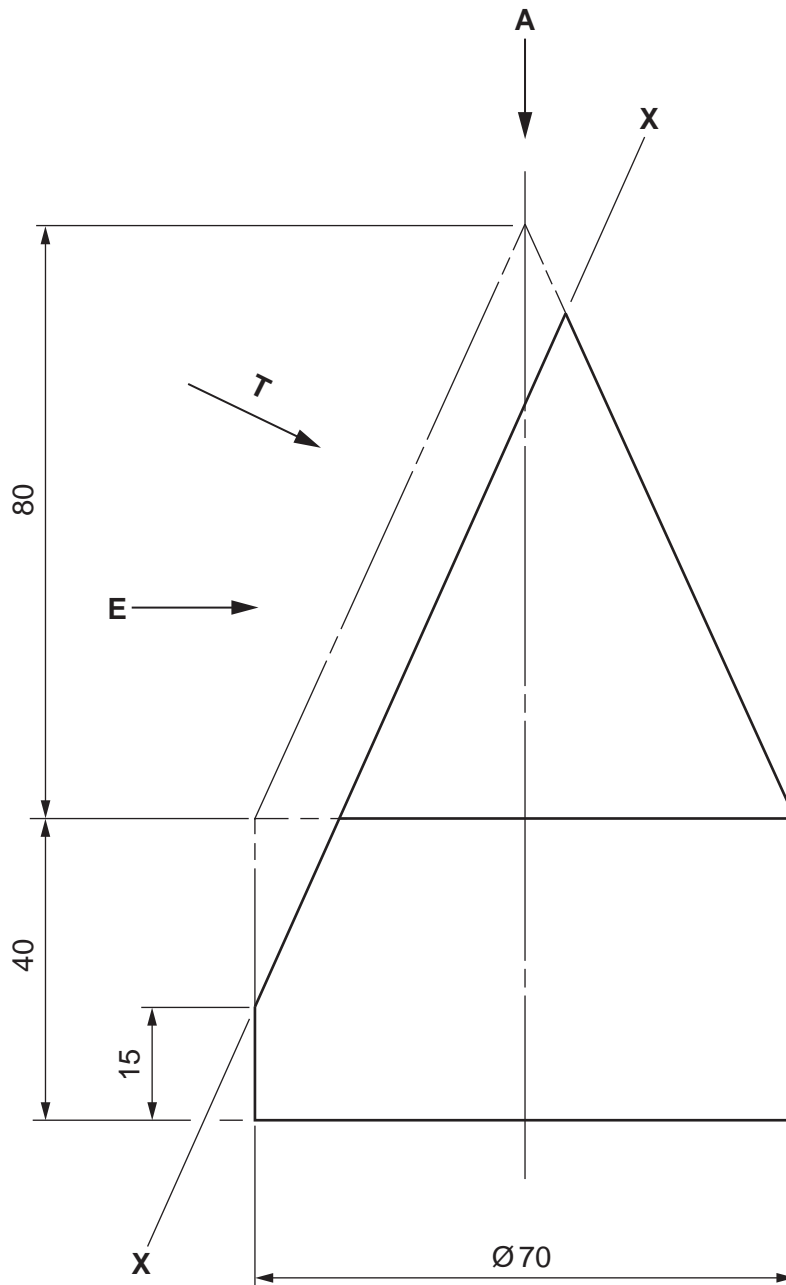

Fig. 4
- 4 Fig. 4 shows the profile of a cylinder that has been formed into a cone at one end. Parts of the cylinder and cone have been removed along the line **XX** which lies parallel to the cone's generator.
- (a) An elevation similar to that shown in Fig. 4, but with the portion to the left of the line **XX** removed. [3]